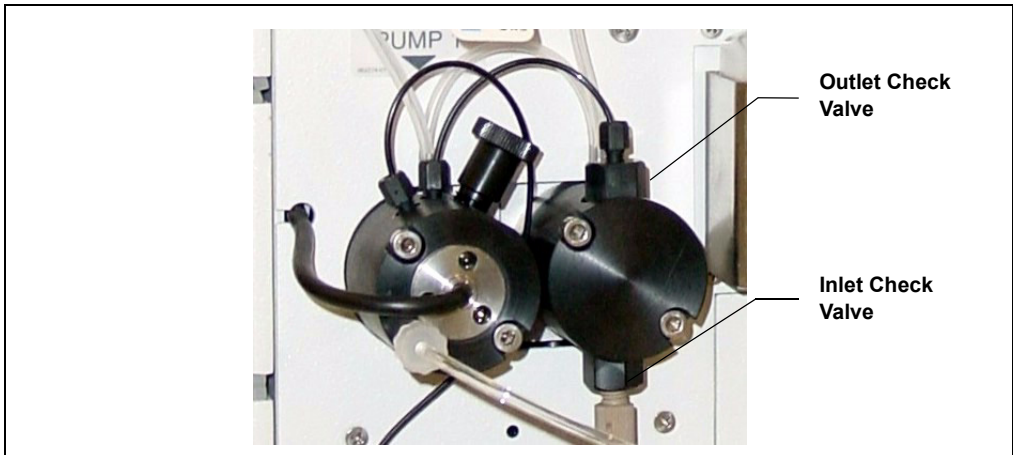

Figure 9-2. DP/SP Check Valve Connections
6. The check valves are installed in the primary pump head (see Figure 9-2).